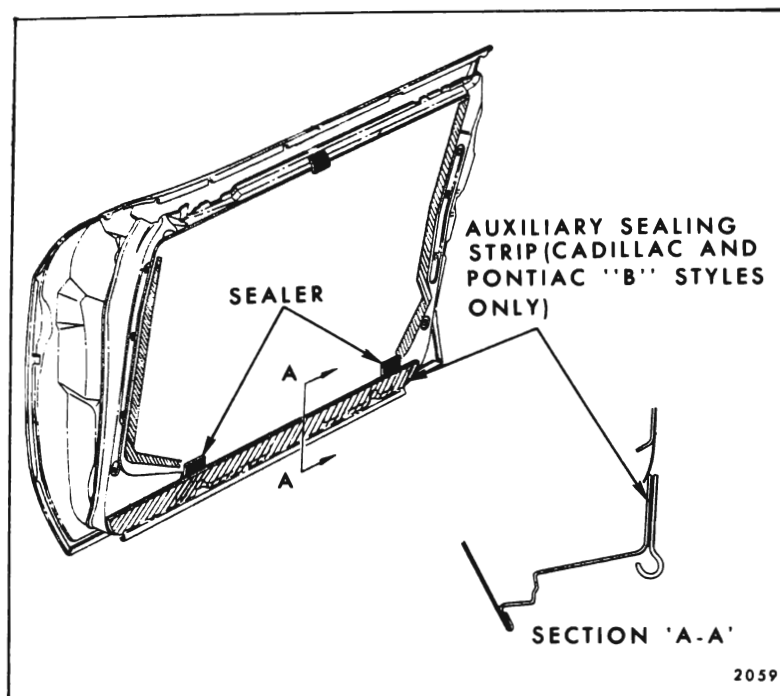

Fig. 7-27—Door Inner Panel Sealing
The door bottom auxiliary sealing strip is secured to the door inner panel with weatherstrip adhesive. The strip is installed after water deflector installation and prior to trim installation. As shown in section "A-A", Figure 7-27, the upper edge of the strip is aligned with the water deflector drain slot. The rolled, semi-bulbular section of the sealing strip extends down below the door trim pad when the trim is installed and fills the opening between the door and door sill plate.
3. Using a flat blade tool such as a putty knife, carefully break cement bond between water deflector and door inner panel down both sides of deflector. Make certain tool blade is between inner panel and string that is imbedded in sealer (Fig. 7-27).
4. When seal has been broken down both sides of deflector, carefully remove tape from inner panel at lower corners of water deflector. Disengage water deflector from inner panel drain slot and remove deflector. On Cadillac Styles and Pontiac "B" Styles it will be necessary to partially remove door bottom auxiliary sealing strip to permit removal of tape at bottom of deflector (Fig. 7-27).